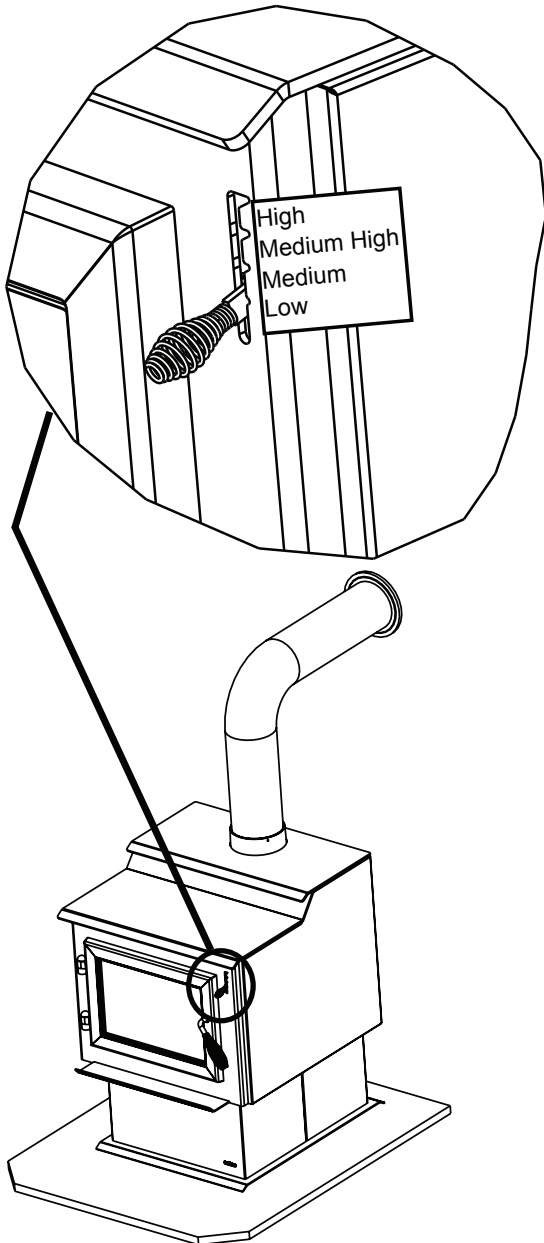

Figure 12.1 - Burn Rate Air Control
The next stage of burning, the secondary stage, is the period when the wood gives off flammable gases which burn above the fuel with bright flames. During this stage of burning it is very important that the flames be maintained and not allowed to go out. This will ensure the cleanest possible fire. If the flames tend to go out, it is set too low for your burning conditions. The air control located at the upper right hand corner is used to adjust for burn rates. This is called the Burn Rate Air Control (**Figure 12.1 on page 12**).
- When the control is raised all the way up it is on the High setting and when pushed all the down it is on the Low setting (**Figure 12.1**).
1. Follow the instructions below for each burn rate for the Burn Rate Air Control (**Figure 12.1**).